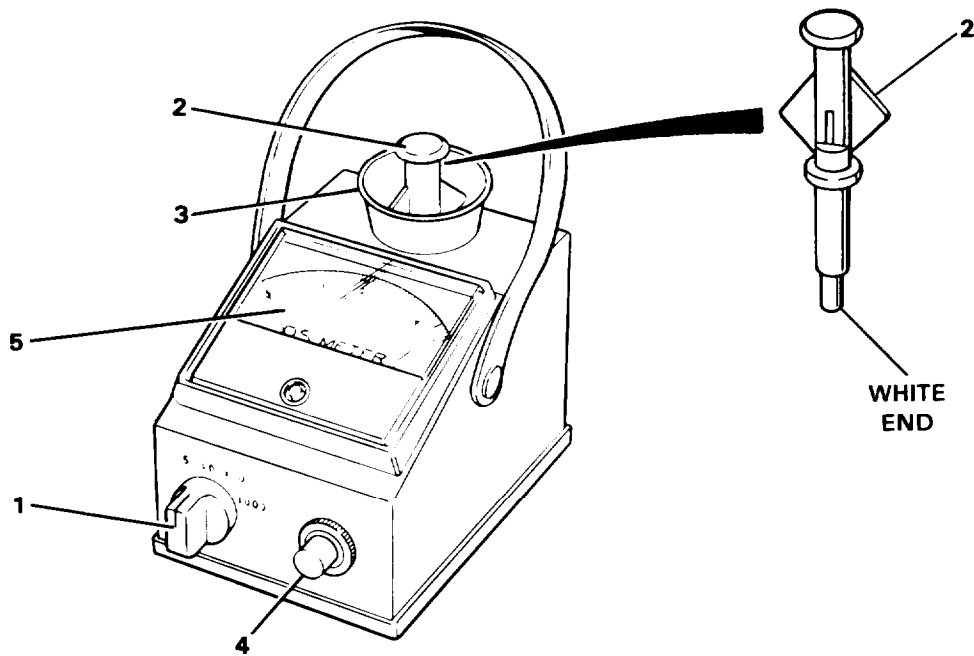

Figure 2-17. Portable TDS Meter
2-7. PORTABLE TDS METER (Figure 2-17).
(3) Check internal standard reading before using TDS meter as follows:
- (b) Set range selector (1, Figure 2-17) to S.
- (d) Push button (4, Figure 2-17).
c. *Adjustment of Meter Extender (Figure 2-17).* When using range extender with the unit use the following adjustment steps: